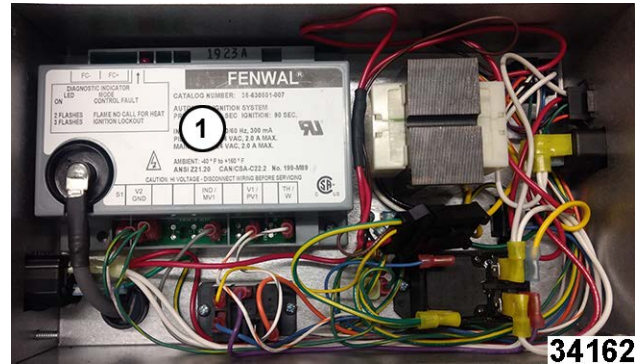

Fig. 35
3. Note and disconnect module (1, Fig. 35) wiring.